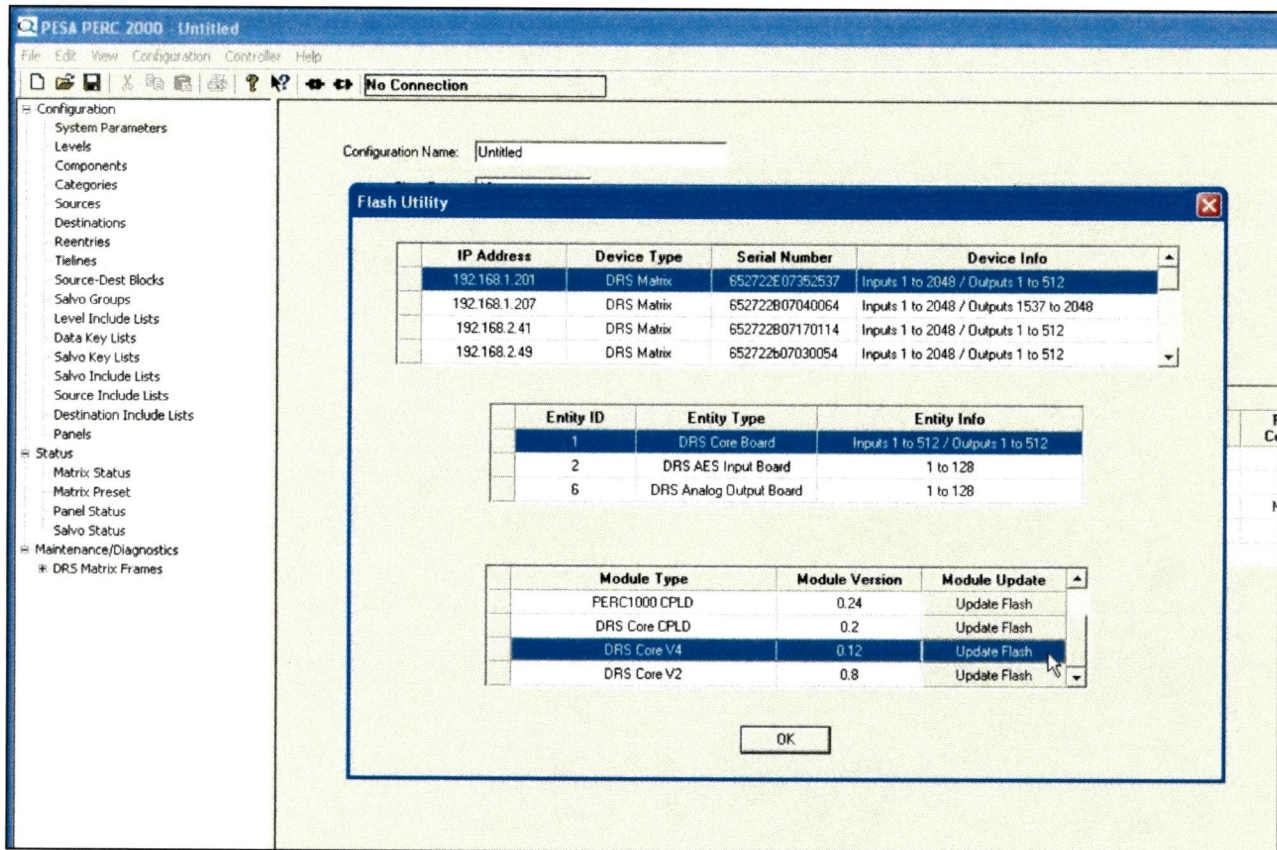

Figure 39. Module Type Listing
6. Entries in the Module Type listing identify the various firmware modules and routines associated with the entity selected in the Entity ID pane. Use the scroll bar in the Module Type window to locate the module named **DRS Core V4**, as shown in Figure 39, and click on this entry to highlight the module name. Click the cursor in the Module Update box on the command "Update Flash."